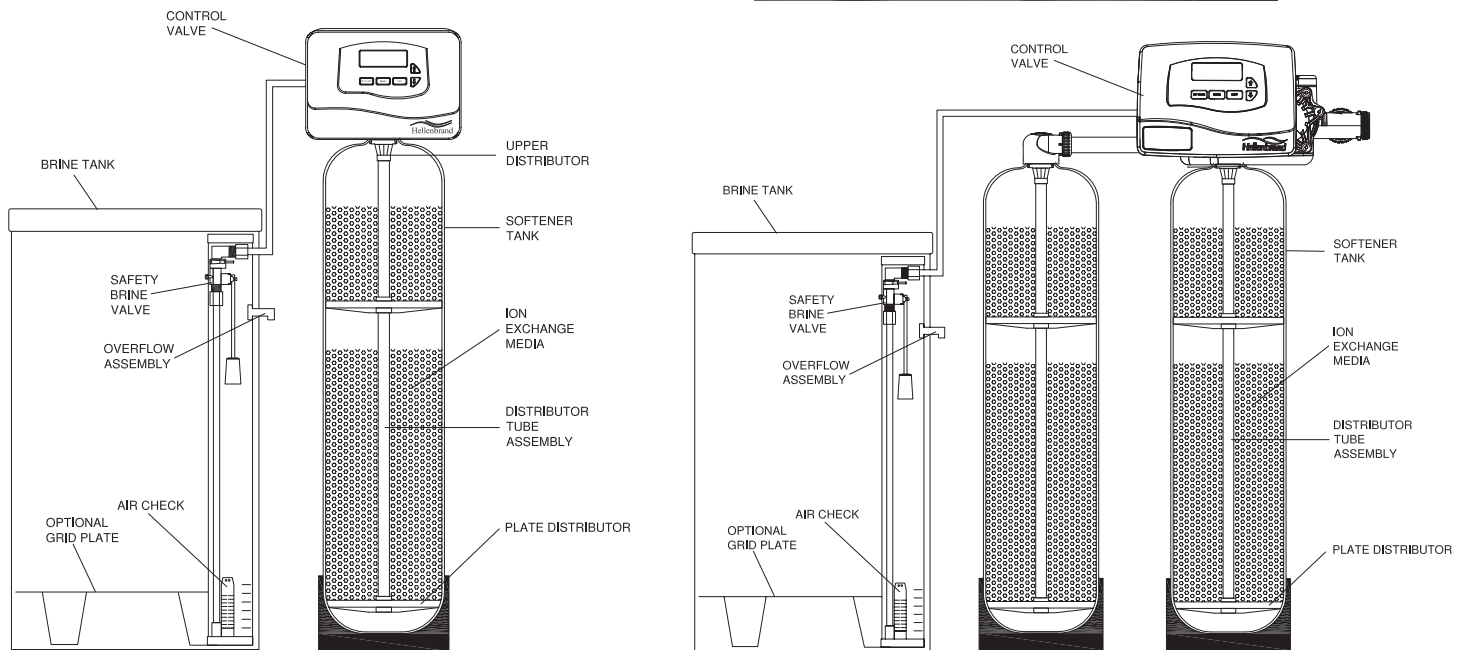

Figure 6b
8. Press the REGEN button until LED display says “REGENERANT DRAWDN”. Loosen the brine line from the elbow on control valve in the brine tank. Place finger over the end of the elbow to check for suction. If no suction, see trouble-shooting guide. (See #10, Page 19) If proper suction, reattach brine tube and allow it to draw water down to the bottom of the air check, (figure 6b, page 6).